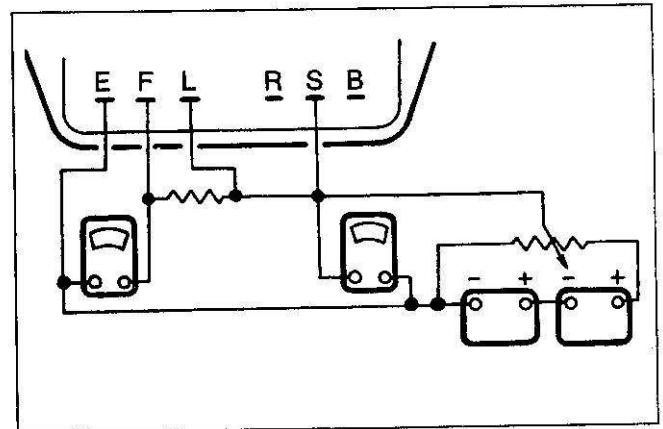

Figure 21. Measuring Voltage at Voltage Regulator
- IC voltage regulator. Measure the voltage across the E and F terminals. Voltage must be between 14.4–15.0 volts at 20°C (68°F). The meter should show a varying resistance gradually from zero using a rheostat. The voltage should increase abruptly about 2 volts. If the voltage is interrupted, replace the regulator (figure 21).
- Measure the voltage across the L, S, and E terminals. Voltage must be 14.4–15.0 volts at 20°C (68°F). The meter should show a varying resistance gradually from zero using a rheostat. The voltage should increase abruptly 2–6 volts. If the voltage is interrupted, replace the regulator (figure 21).
- Measure the voltage across the B, L and E terminals. Voltage must be 14.9–16.5 volts at 20°C (68°F). The meter should show a varying resistance gradually from zero using a rheostat. The voltage should increase abruptly. If the voltage is interrupted, replace the regulator (figure 21).